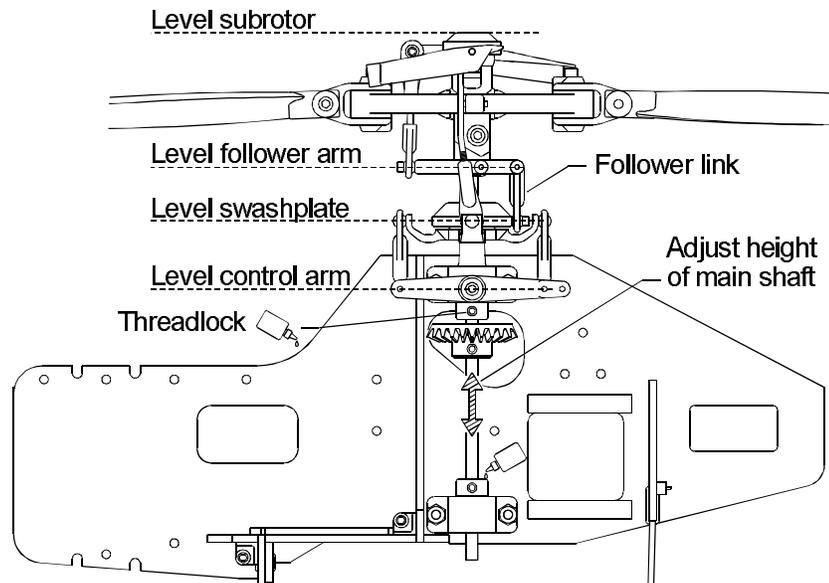

Figure 11-1.
- ❑ 1. Mount the rotor head to the main shaft as shown in Fig. 11-1 (review Fig. 8-11 if necessary). Snap the follower link to the middle swashplate universal ball.
- ❑ 2. Loosen the setscrews in the main-shaft bearing collars (review Fig. 8-10 if necessary) and move the shaft up or down until the *Subrotor* stabilizer and follower arm are level with the swashplate and fore/aft control arm as shown in Fig. 11-1.